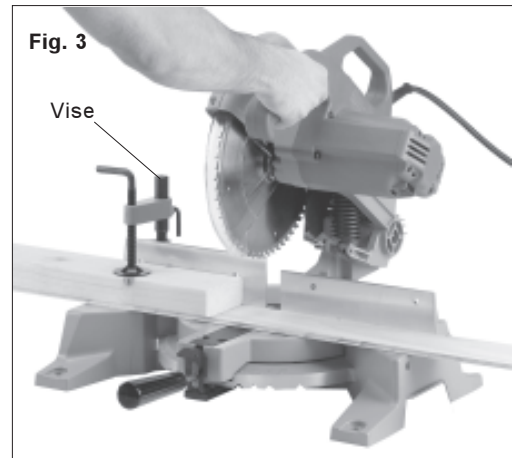

Fig. 3
2. *Use Vise No. 49-52-0310:* Clamp the workpiece to the base using the *MILWAUKEE* vise (Fig. 3). The vise fits into the slot on the back of the left fence.